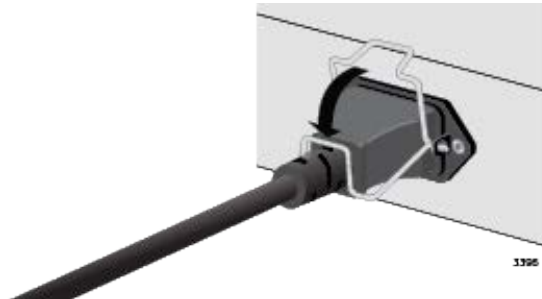

Figure 65. Lowering the Power Cord Retaining Clip
3. Lower the power cord retaining clip to secure the cord to the switch. Refer to Figure 65.